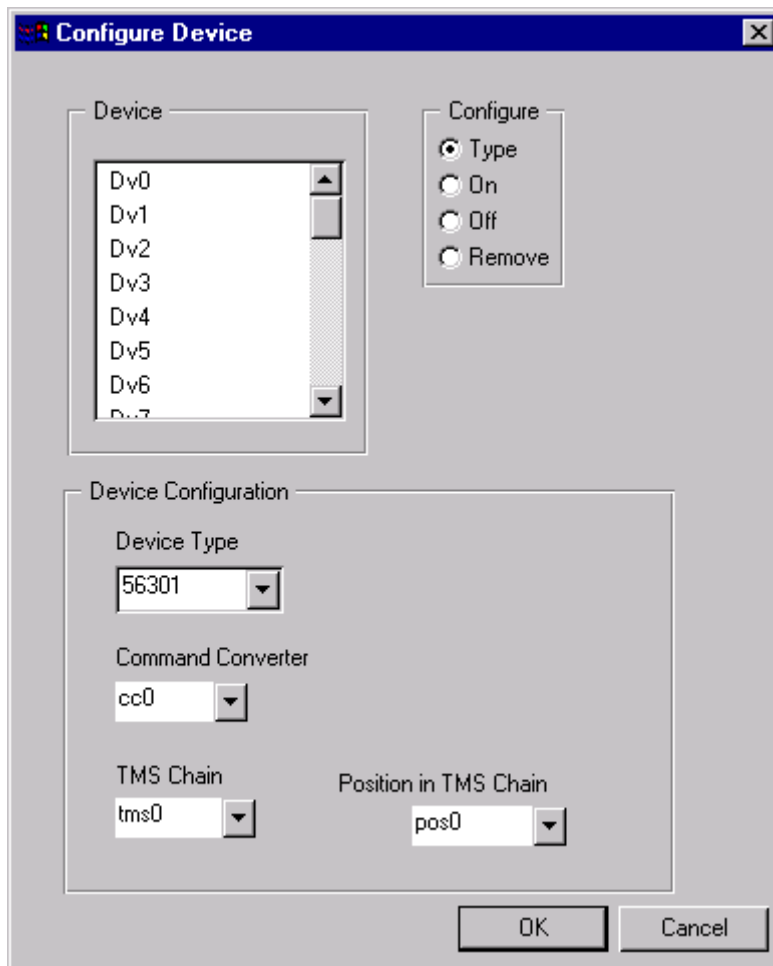

Figure 7-1. Setting the Configuration of a Device
1. From the **Modify** menu select **Device**. Then choose configure. The dialog box in Figure 7-1 appears.